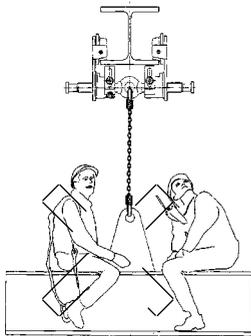

Fig. 1
- It is forbidden to use the trolley for the transportation of people (Fig. 1).